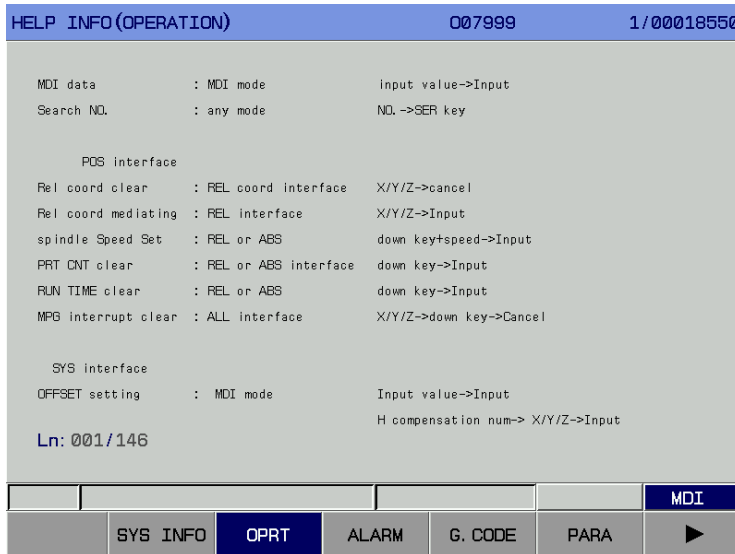

Fig. 3-9-2
2. For the operation table interface, press the [Operation table] soft key on the <Help> interface to enter the help information (operation list) interface, as shown in Fig. 3-9-2.